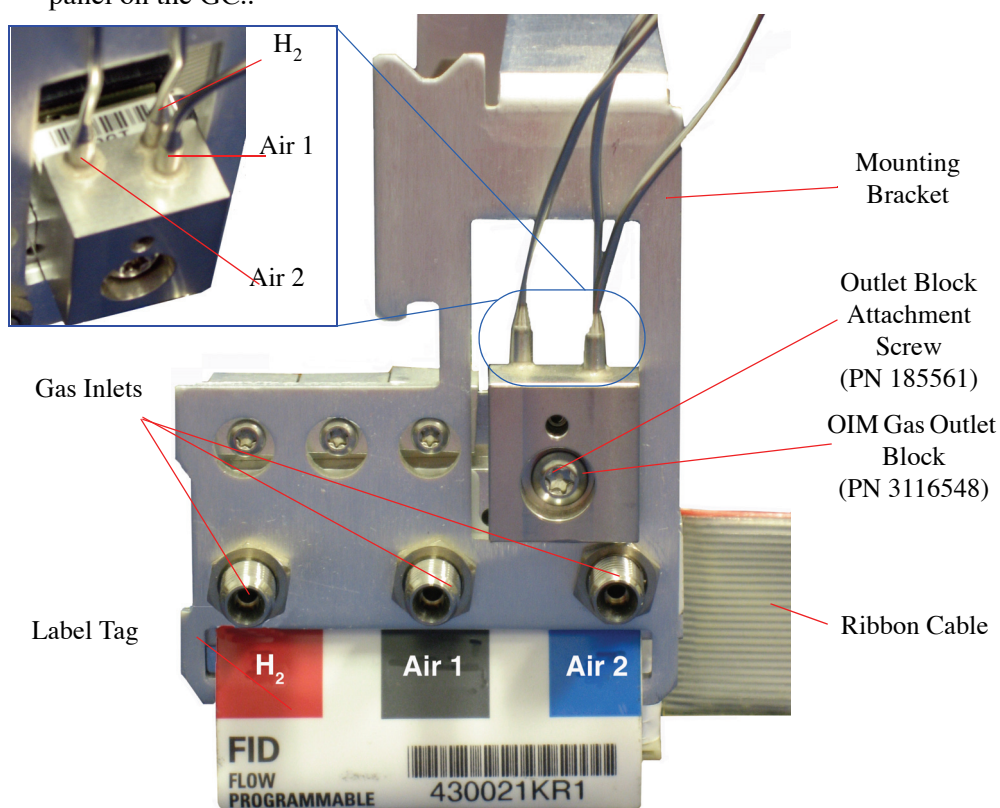

Figure 4.32. OIM pressure control manifold configured for the PFPD
12. Remove the protective caps from the gas inlets on the front of the OIM pressure control manifold. Using 1/8" brass nuts and ferrules, attach the H₂ gas line to the inlet labeled “H₂”, an air line to the inlet labeled “Air 1”, and another air line to the inlet labeled “Air 2” (Figure 4.32).